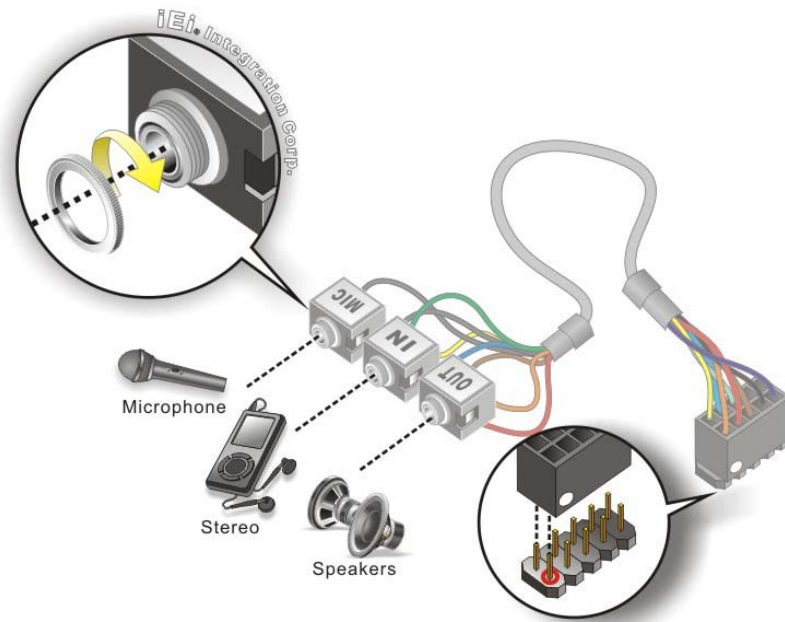

Figure 4-18: Audio Kit Cable Connection
Step 2: **Align pin 1.** Align pin 1 on the on-board connector with pin 1 on the audio kit connector. Pin 1 on the audio kit connector is indicated with a white dot. See **Figure 4-18**.